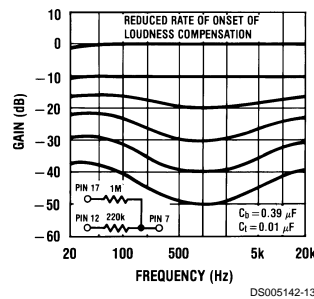
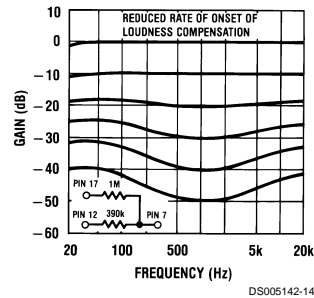

FIGURE 10. Loudness Compensated Volume Characteristic
FIGURE 11. Loudness Compensated Volume Characteristic
*Figure 10* and *Figure 11* show the effect of resistively offsetting the voltage applied to pin 7 towards the control reference voltage (pin 17). Because the control inputs are high impedance, this is easily done and high value resistors may be used for minimal additional loading. It is possible to reduce the rate of onset of control to extend the active range to  $-50$  dB volume control and below.